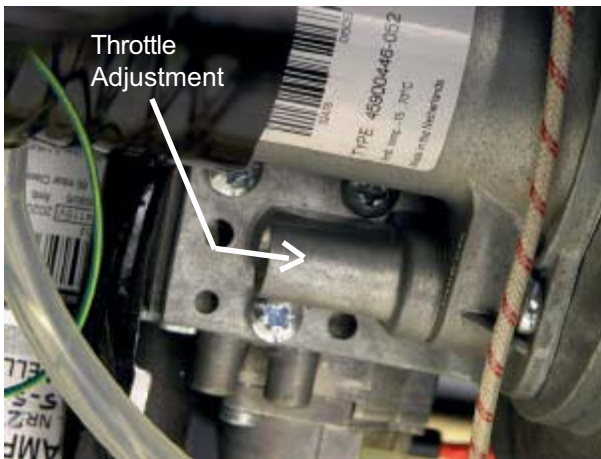

Fig 9.1
To check, re-establish gas and electricity and then run the Heater for at least 5 minutes. If adjustment is required remove the cover over the Throttle screw and turn anti-clockwise to increase CO₂, clockwise to decrease.(Fig. 9.1) Allow at least a minute between adjustments to obtain stable readings. The Gas Rate will be correct when the CO and CO₂ figures are to specification.
- Release the Gas Valve from the Venturi by undoing three screws. (See Fig.9.1)
- After five minutes check the rate and combustion is correct to the Datable. (inside Front cover). Adjust using the Throttle Screw on the Gas Valve clockwise to decrease CO₂, anti-clockwise to increase CO₂. (Fig. 9.1)
- After five minutes check the rate and combustion is correct to the Datatable. (inside Front cover). Adjust using the Throttle Screw on the Gas Valve clockwise to decrease CO₂, anti-clockwise to increase CO₂. (Fig. 9.1)